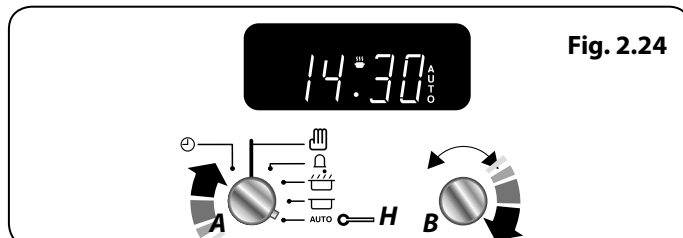

Fig. 2.24
3. Continue to turn the **Adjusting (B)** knob to the amount of time required e.g. 1 minute. The display will show the current time plus the required length of time you have set (**Fig. 2.24**).
4. Turn the **Timer (A)** knob to the **Auto (H)** setting. The display will show the current time, the Cooking symbol and the word 'AUTO' (**Fig. 2.24**).